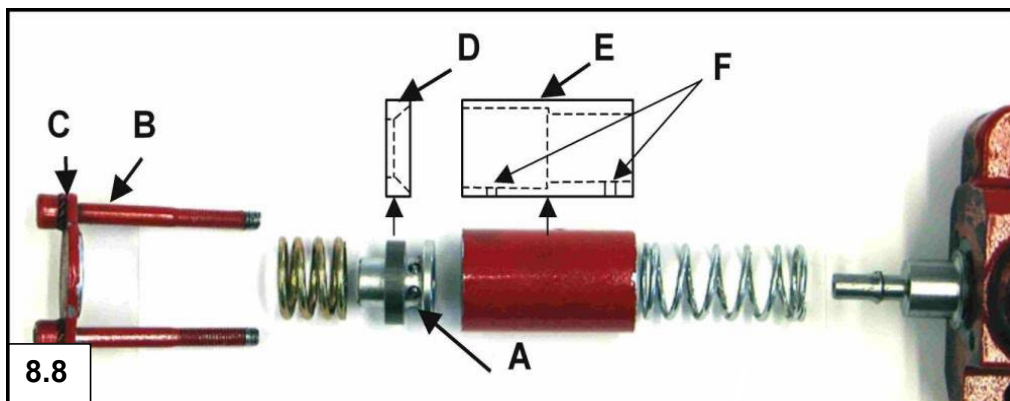

Figure 33
- ❑ Keep the cover C of the detent end depressed while undoing the screws B, Fig. 33, as the stiff springs can throw away the cover. Then also the springs and the balls of the detent part can be thrown away.